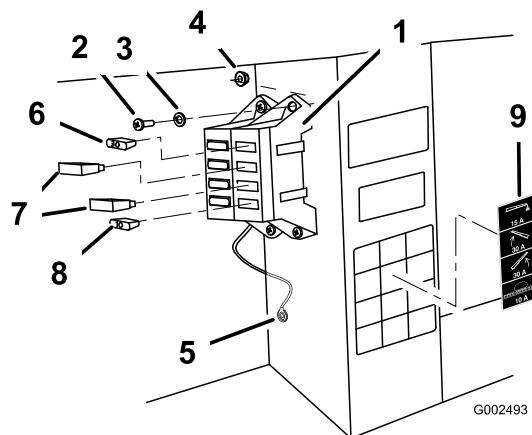

Figure 8
5. Connect the black ground wire to the existing 1/4 inch bolt on the interior side of the vehicle frame, using the star washer (Figure 8).
(#10-24 x 3/4 inch) and two locknuts (#10-24) as shown in Figure 8.
- A. Install the two 30 amp thermal breakers to the left and right boom lift fuse slots (Figure 8).
- B. Install the 10 amp fuse to the spray system power fuse slot (Figure 8).